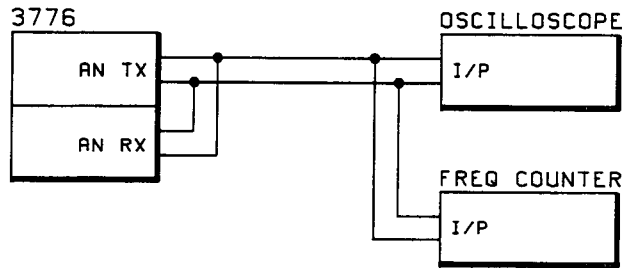

Figure 4-28 Analog Transmitter Frequency Accuracy Set-up
1. Connect the equipment as shown in Figure 4-28.